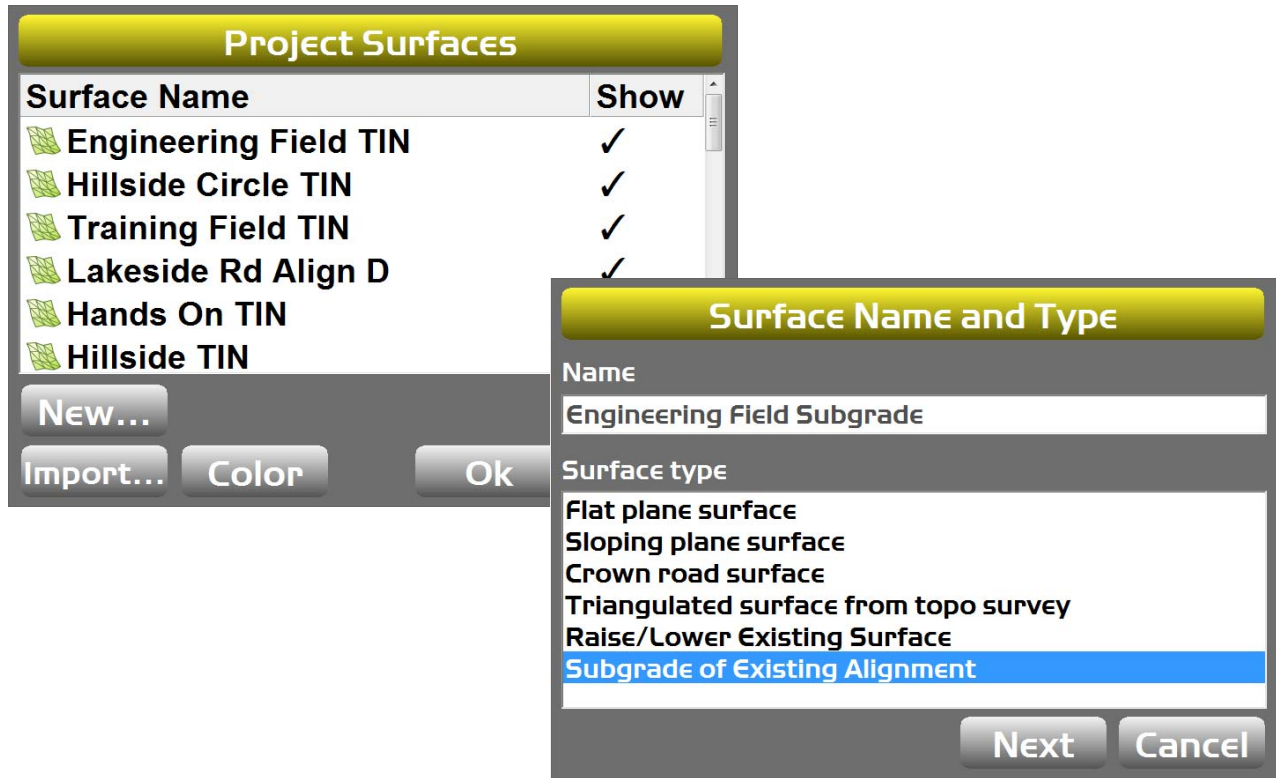

Figure 43: Project Surfaces Screen – Subgrade Existing Alignment
- From the **Surface Name and Type** screen, enter a name and select **Subgrade of Existing Alignment** (Figure 43).